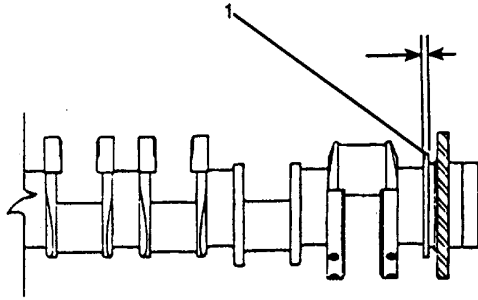

FIGURE 4-52. Crankshaft Thrust Flange Measurement.
- e. Measure and carefully examine the crankshaft thrust flange (1, FIG. 4-52) at the No. 8 bearing. See Table 4-4 . If the surfaces are scored or scratched, the crankshaft should be reground and oversize thrust rings installed during reassembly.